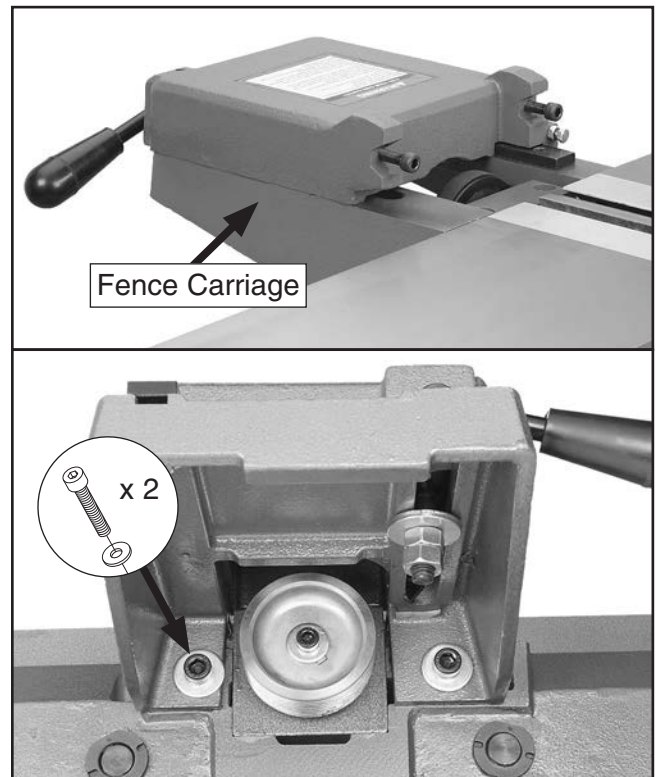

Figure 17. Fence carriage installed.
20. Use the two pre-installed cap screws and flat washers to install fence carriage to rear of jointer assembly, as shown in **Figure 17**.